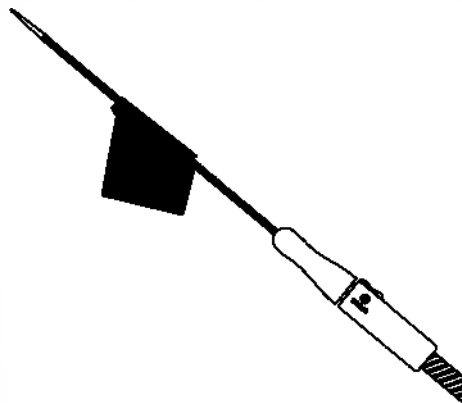

Fig. 4 Activate the hydrophilic coating
- ✧ Use gauze pads with saline solution to wipe the outer sheath and activate the hydrophilic coating. (Fig. 4)